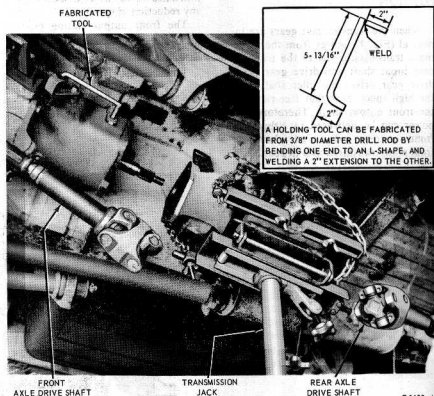

FIG. 2—Removing or Installing Transfer Case
4. Disconnect the front and rear drive shafts at the transfer case (Fig. 2).
6. Disconnect the shift rods from the transmission shift levers. Then, place the first-reverse gear shift lever into the first gear position, and insert the fabricated tool (Fig. 2). This tool will prevent the input shaft roller bearings from dropping into the transmission case when separating the transfer case from the transmission and output shaft.
13. Move the transfer case and jack rearward until it clears the transmission output shaft (Fig. 2). Lower the transfer case.
1. Position the transfer case to the transmission (Fig. 2) and install the attaching bolts. Torque the bolts to specifications.